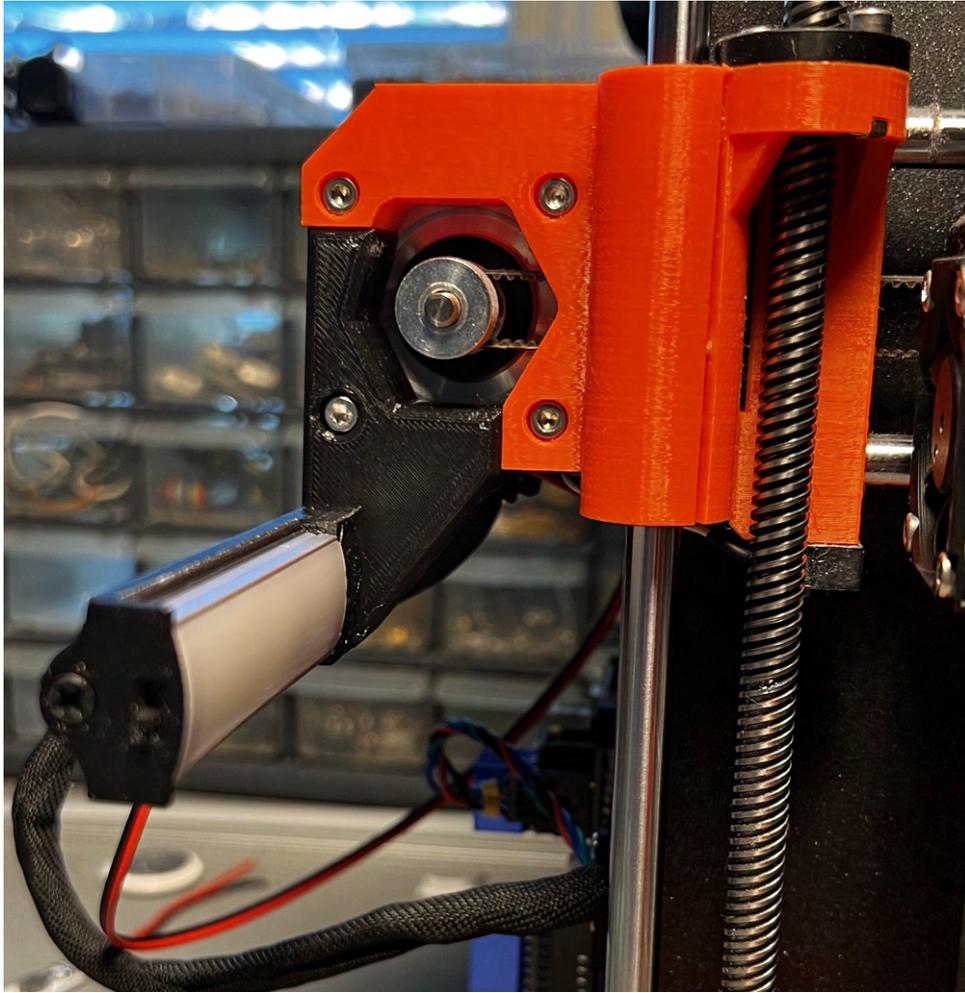

Figure 17: LED light installed on X-axis motor.
4. You are now ready to mount the light onto the printer. Simply take the M3 screw and attach it to the hole on the X-axis motor, as shown in Figure 17.